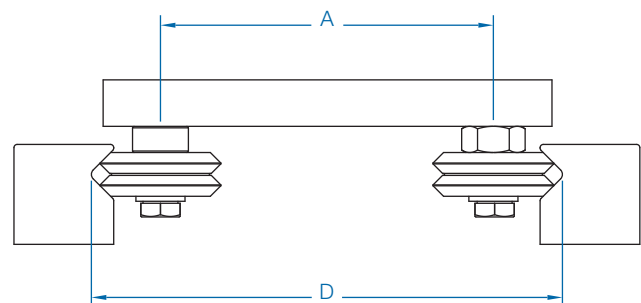

Figure 3 Exterior Mounting
- Exterior Mounting (See Figure 3): $A = D - Y$